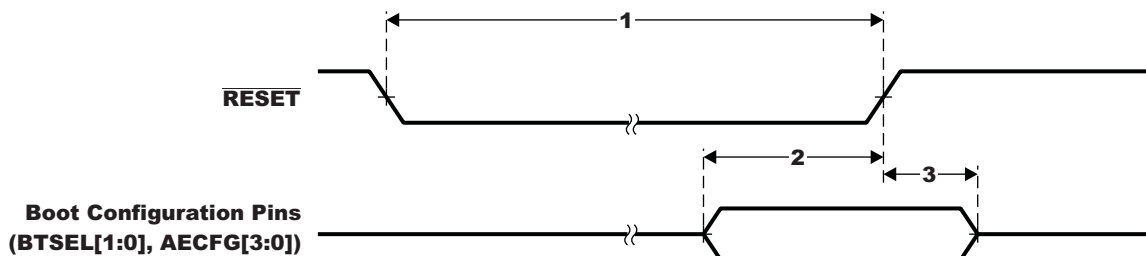

Figure 5-4. Reset Timing
Table 5-2. Timing Requirements for Reset (1) (2) (see Figure 5-4)